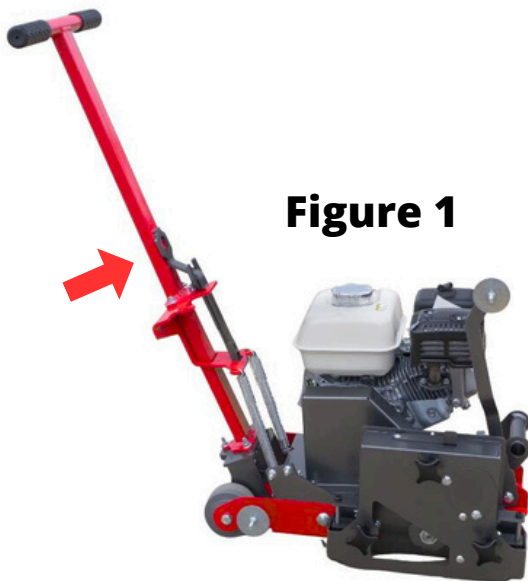

Figure 1
1. Attach the upper control handle to the saw using the provided hardware (Fig.1).